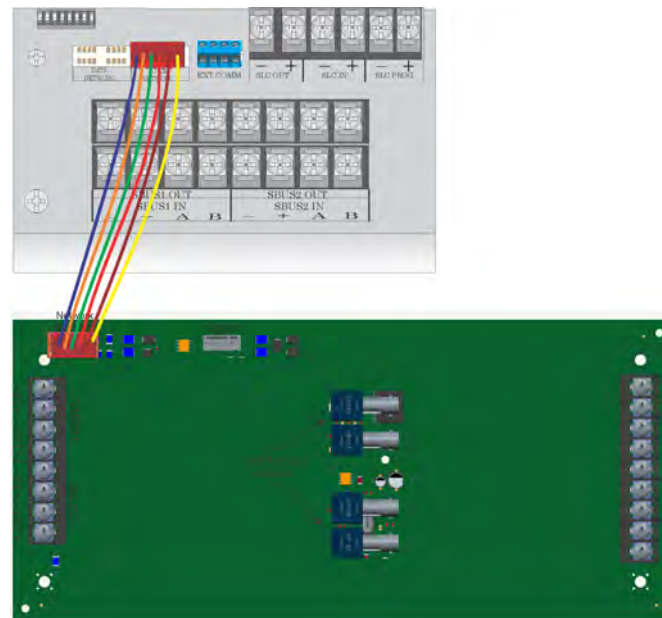
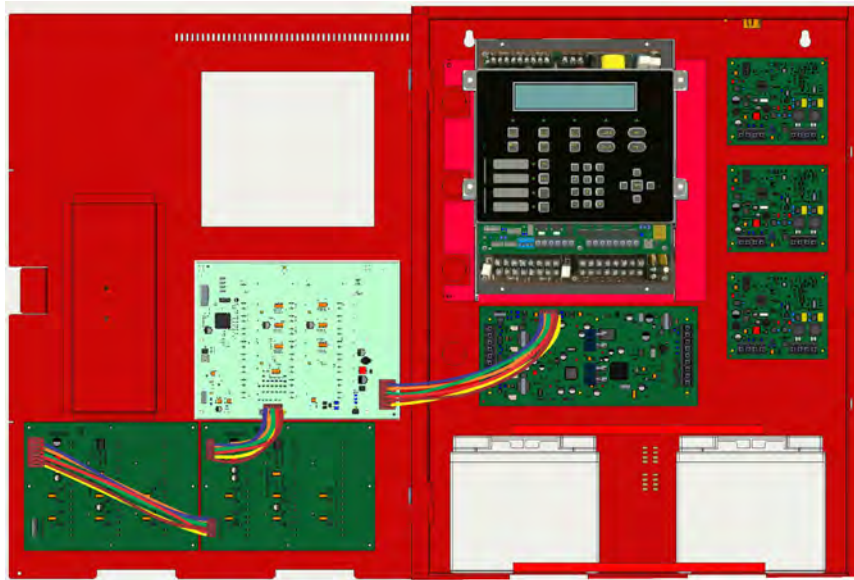

Figure 4.5 Wiring Harness Connection for the ECS-NVCM to TR-2100ECS
Figure 4.6 Connection between ECS-EMG and Two TR-SW24s
4. Install the TR-SW24 on the six mounting studs located on the inside of the dead front panel. Figure 4.5 for TR-2100ECS.
5. For the TR-2100ECS, connect one end of the wiring harness (PN 130398 supplied) to the ECS-EMG and the other end to the P4 connector on the ECS-NVCM as shown in Figure 4.5. If two TR-SW24's are used, connect one TR-SW24 to the other TR-SW24 as shown in Figure 4.6.